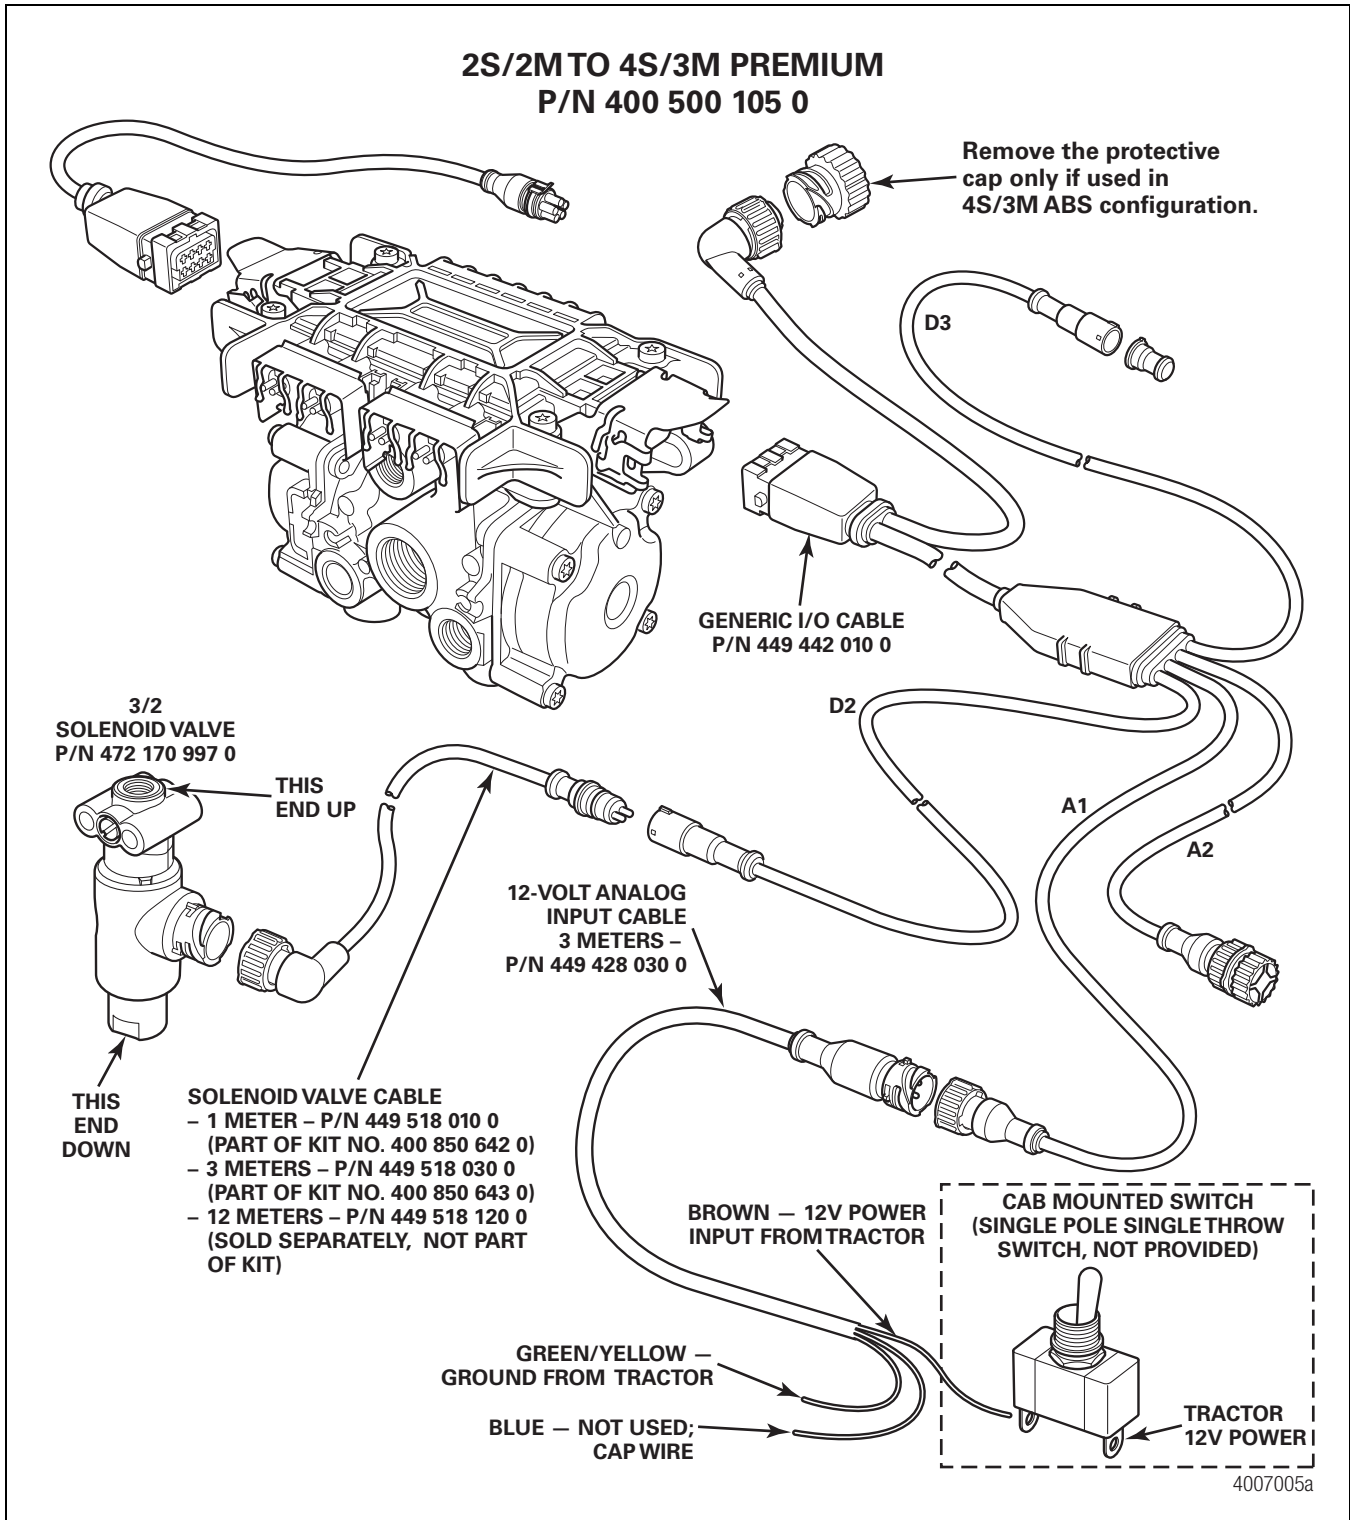
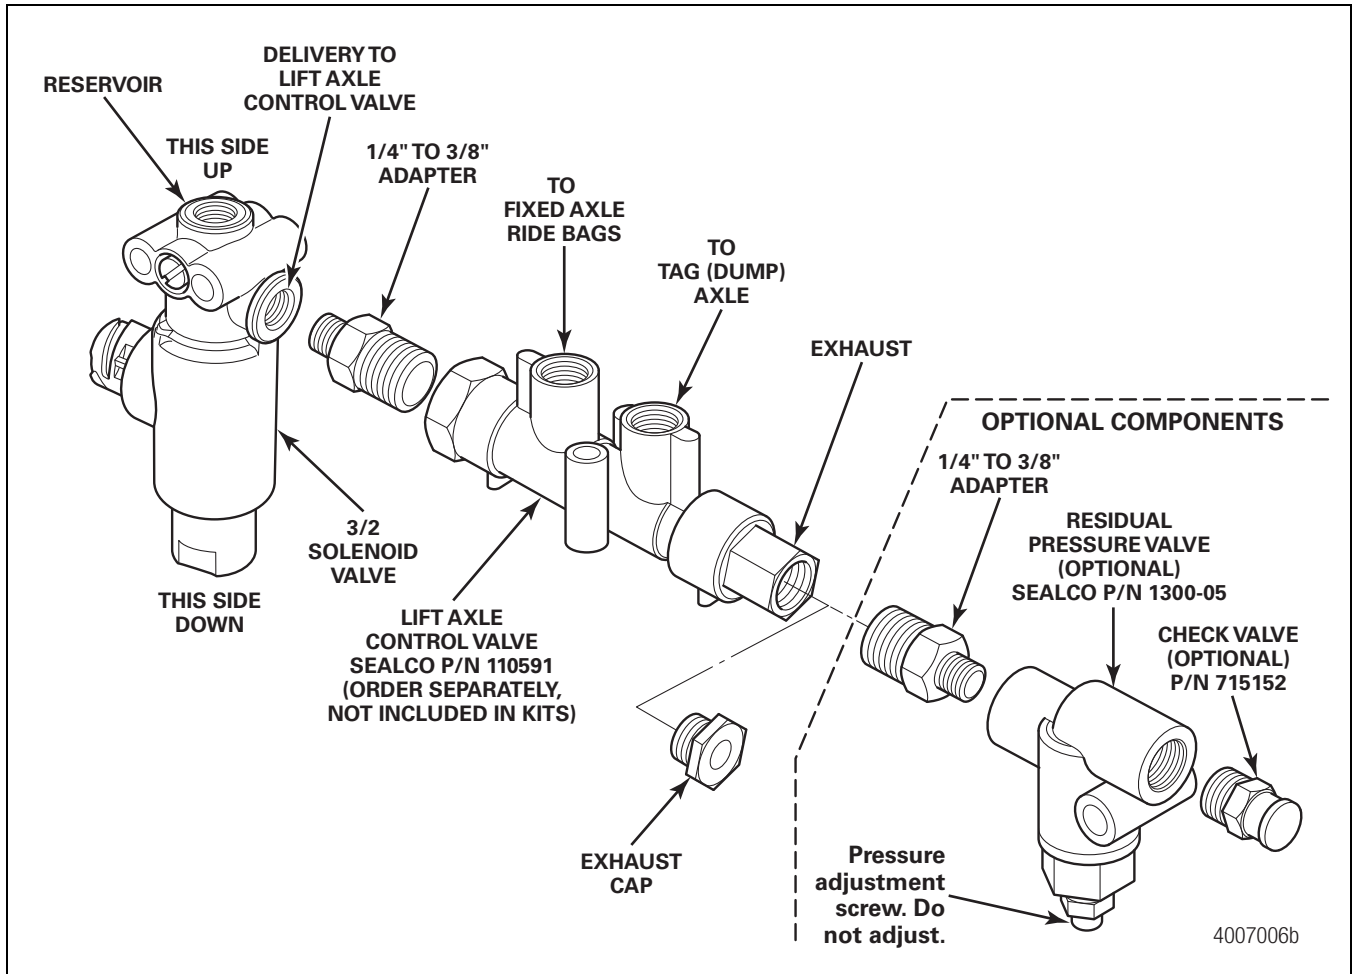

Figure 4
Figure 5
6. Connect the multiple generic I/O cable, part number 449 442 010 0, to the ECU and secure it with the locking tab. Refer to Figure 3 for the 2S/1M Basic ECU or Figure 4 for the 2S/2M to 4S/3M Premium ECU.
7. Connect the solenoid valve cable, part number 449 518 010 0 or 449 518 030 0 depending on the kit, to the "D2" digital output of the multiple generic I/O cable. NOTE: "D2" lettering is stamped in white on the female end of the multiple generic I/O cable. Refer to Figure 3 for the 2S/1M Basic ECU or Figure 4 for the 2S/2M to 4S/3M Premium ECU.
8. Connect the 3/2 solenoid valve, part number 472 170 997 0, to the solenoid valve cable, part number 449 518 010 0 or 449 518 030 0 depending on the kit. Refer to Figure 3 for the 2S/1M Basic ECU or Figure 4 for the 2S/2M to 4S/3M Premium ECU.
Ensure the thread sealant does not enter inside any of the ports as it could damage the solenoid valve and affect system performance. Figure 5.
9. Ensure that the solenoid valve is installed correctly. Figure 3, Figure 4 and Figure 5.
10. Connect the 12-volt input analog cable, part number 449 428 030 0, to the "A1" analog input of the multiple generic I/O cable. NOTE: "A1" lettering is stamped in white on the female end of the multiple generic I/O cable. Twist the cables together to ensure they lock. Refer to Figure 3 and Figure 4.
11. Mount a single pole, single throw toggle switch in a driver accessible area of the tractor's cab. Connect the brown wire of the 12-volt analog input cable to one side of the switch. Connect 12-volt vehicle power to the other side of the switch. Connect the green/yellow wire to ground. Cap the blue wire as it is not used. Refer to Figure 3 and Figure 4.
12. Apply a thread sealant and install the 1/4-inch to 3/8-inch adapter fitting from the solenoid valve to the lift axle control valve, SEALCO part number 110591. Figure 5.
13. Optional: Install the residual pressure valve (SEALCO part number 1300-05) to prevent air bag damage. This will allow 5 psi (0.34 bar) of air to remain in the air bags of the tag axle. Figure 5.